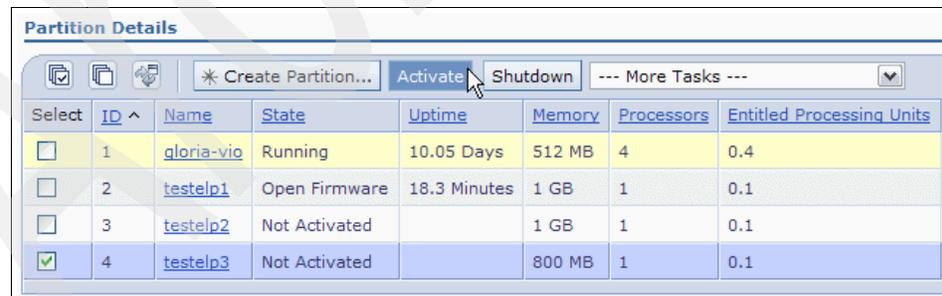

Figure 6-3 Activating an IVM partition
- b. Click **Activate**, as shown in Figure 6-3.